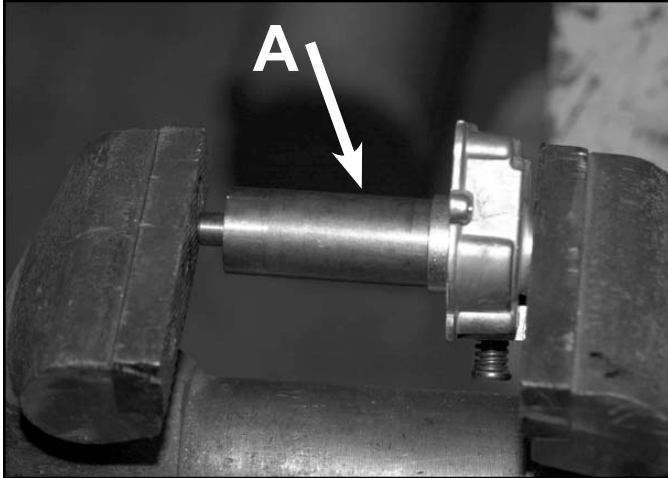

Fig 019
5. If the bearing in the cover is being replaced, use tool P/N 27-0490 to press it in place. This bearing only has one seal. Install the bearing such that the seal is visible from the top of the cover and the open side faces the gears. Press the bearing in until it is fully seated in the case (Fig. 019).